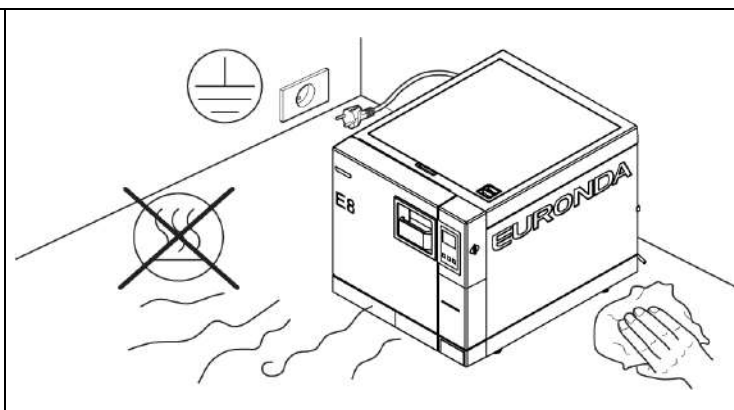

Fig. 6.1-4
- Do not install the unit where there is poor air circulation (Fig. 6.1-4).
- Do not place the unit near sources of heat (Fig. 6.1-4).